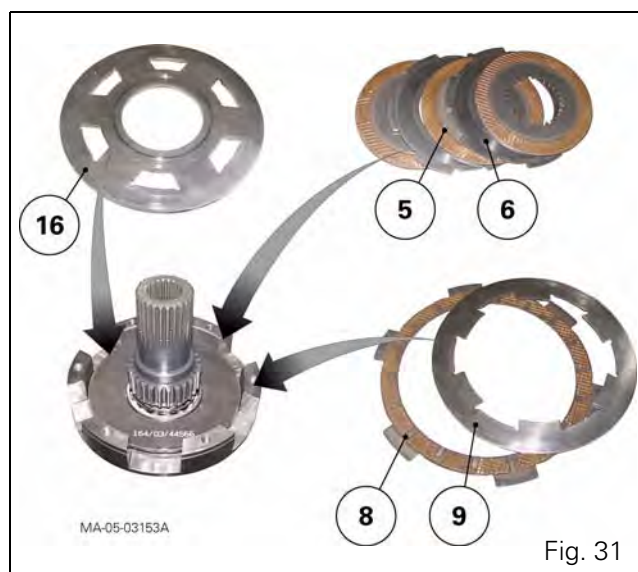

Fig. 31
55. Fit the junction plate (16), the clutch discs (5) and thrust plates (6), and a brake disc (8) and thrust plate (9) on the clutch housing (3) (Fig. 31).